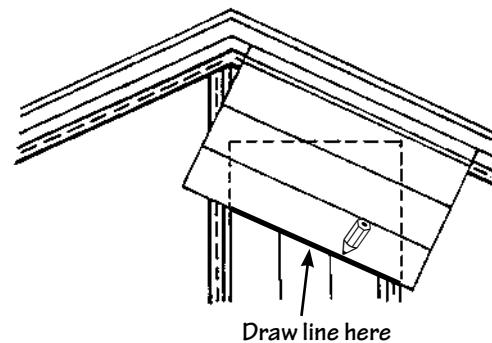

Figure 62.
- Make a pattern for end cuts along the gable using two pieces of scrap siding (Fig. 62). Lock one piece into the vertical strip at the center of the wall. Hold the edge of the other piece against and in line with the roof line. Mark the slope on the vertical piece and cut along that line. Use it as a pattern to mark and cut the ends of all other panels required for this side of the gable end. Make another pattern for the other side of the gable.